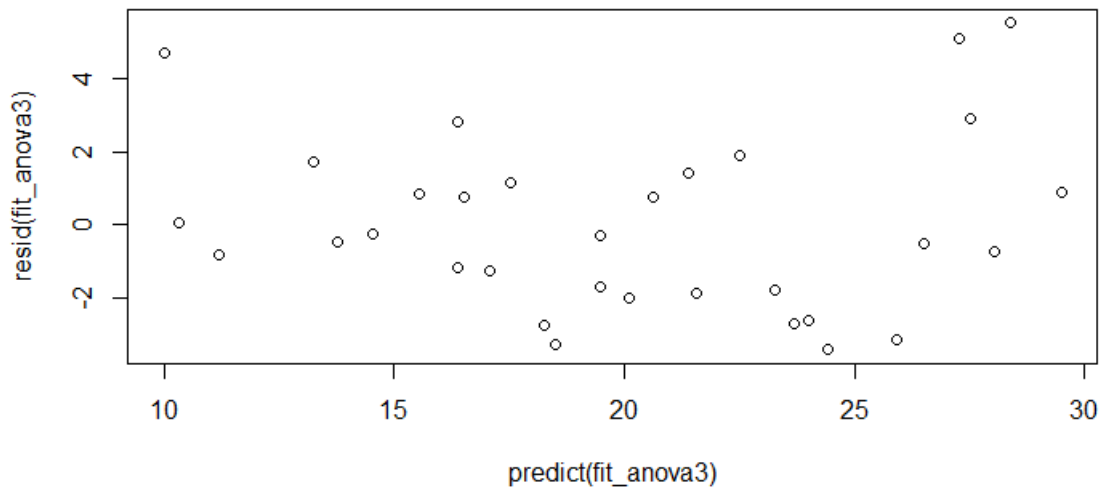

Figure 4. Diagnostic plots of our multivariate model: there may be additional regularity in the remaining ~14% variation
**Plots are in the report appendix. For the residuals of fit\_anova3, please refer to Figure 3 in the appendix.** The technique used for the residuals is to take **predict(fit\_anova3)** by **resid(fit\_anova3)**. Following the residuals are the four diagnostic plots. **For the diagnostic plots of fit\_anova3, please refer to Figure 4 in the appendix.** The residual plot and the first of the diagnostic plots appears to show some "stripey" sets of points, which may suggest that there is additional regularity above and beyond the 84% we have explained. In the interest of concise work, we conclude this phase of the analysis here.